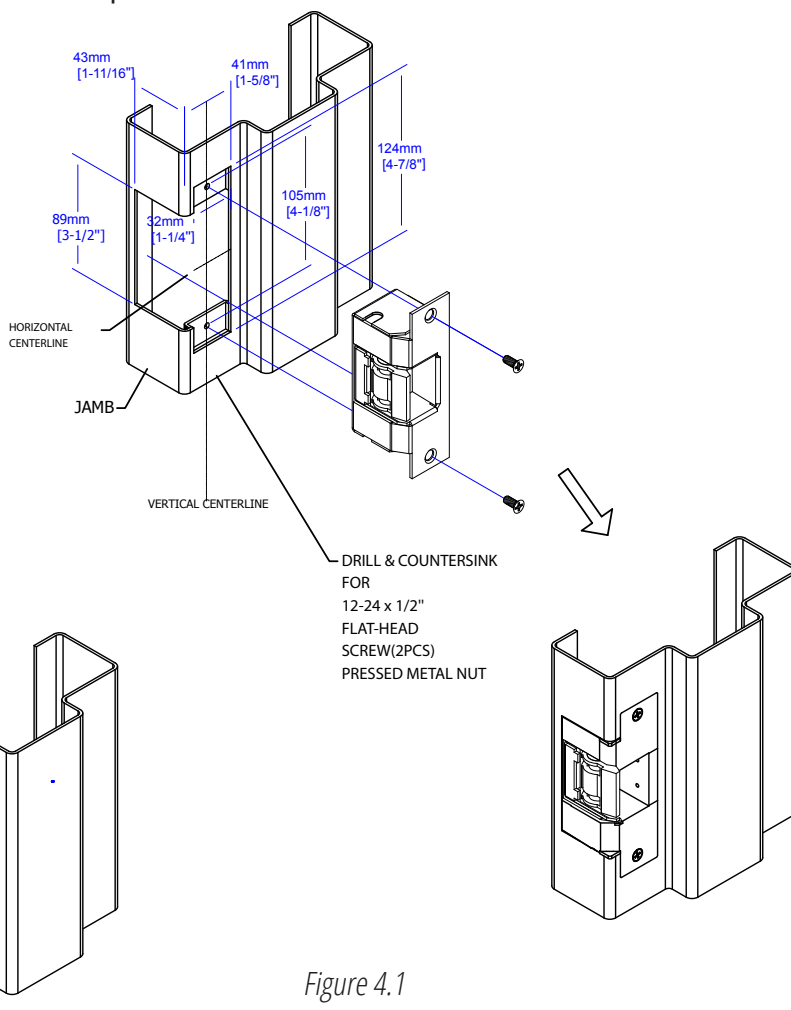

Figure 4.1
3. Using a chisel, router, or jamb saw, cut out the mortise in the jamb along the marked outline. The size of the mortise should match the size of the electric strike. Make sure to cut to the depth specified in figure 4.1.
8. Make sure that the door jamb/gate has an appropriate cutout to accommodate strike assembly. If not then, refer to the figure 4.1 and cut the jamb if required.